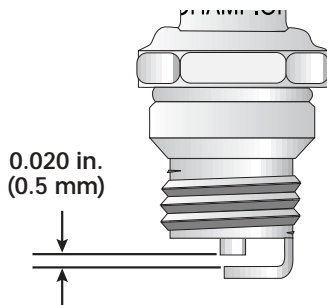

Fig. 34
3. Replace a cracked, fouled or dirty spark plug. Set the air gap at **0.020 in. (0.5 mm)** using a feeler gauge (Fig. 34).